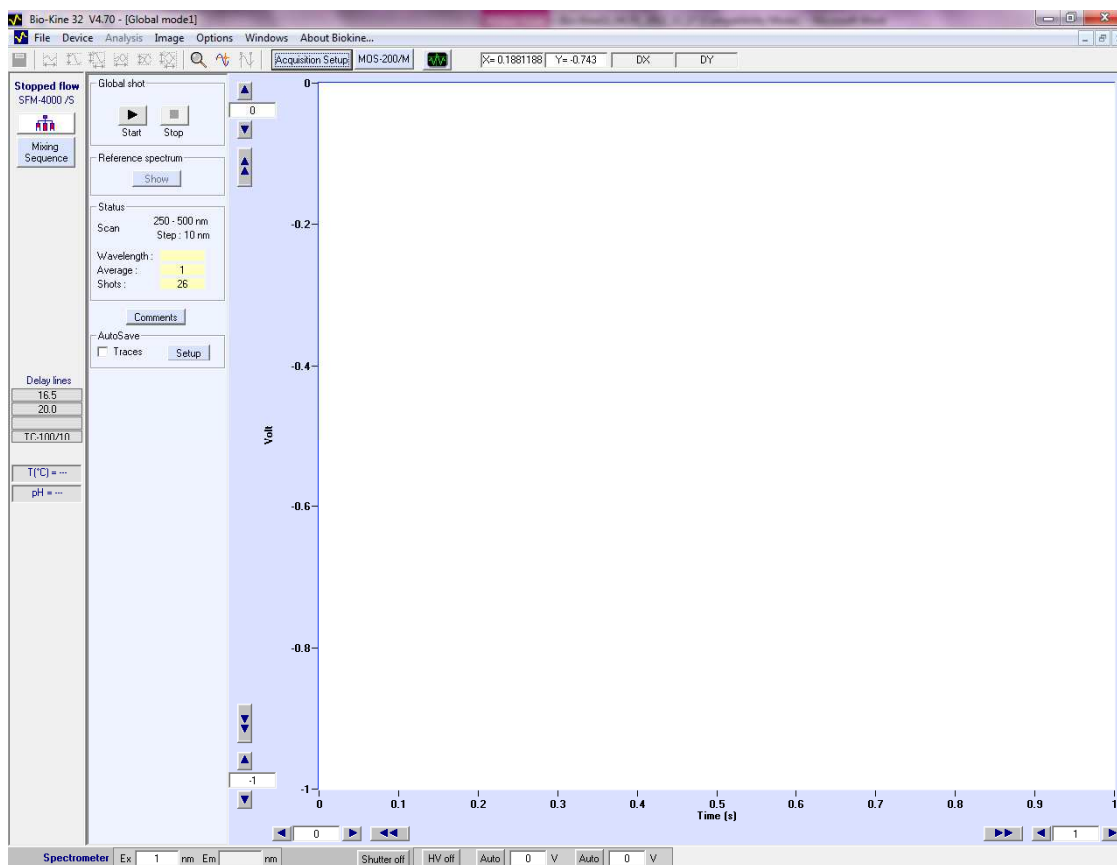

Figure 121 : Global mode window
The global mode window is loaded by choosing: **Device, Global Mode**, the window shown in Figure 121 will be displayed.
- To run the experiment click on **Start** button in **Global Shot** (see Figure 121).